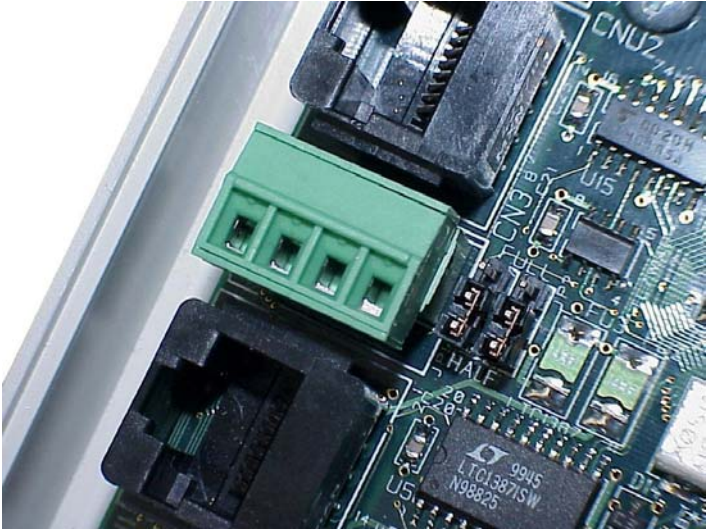

Figure 30: RS485 Terminal Block (CN3) and Duplex Selection Jumpers
- The required drive configuration will vary depending on the specific drive(s) involved. In general, most parameters are freely configurable to match the gateway's port settings (baud rate, parity etc.) The most critical selection, however, is that if the drive is directly connected to the gateway via 2-wire mode, then the drive must be properly configured for 2-wire RS485. Note that this may involve hardware configuration in addition to parameter changes. For example, G7/Q7/H7-series drives have duplex selection jumpers located on the drive's control board near the communication ports. For these drives, both jumpers must be placed in the "HALF" position. Refer to Figure 30 for an example detailed view of correctly-positioned duplex selection jumpers.